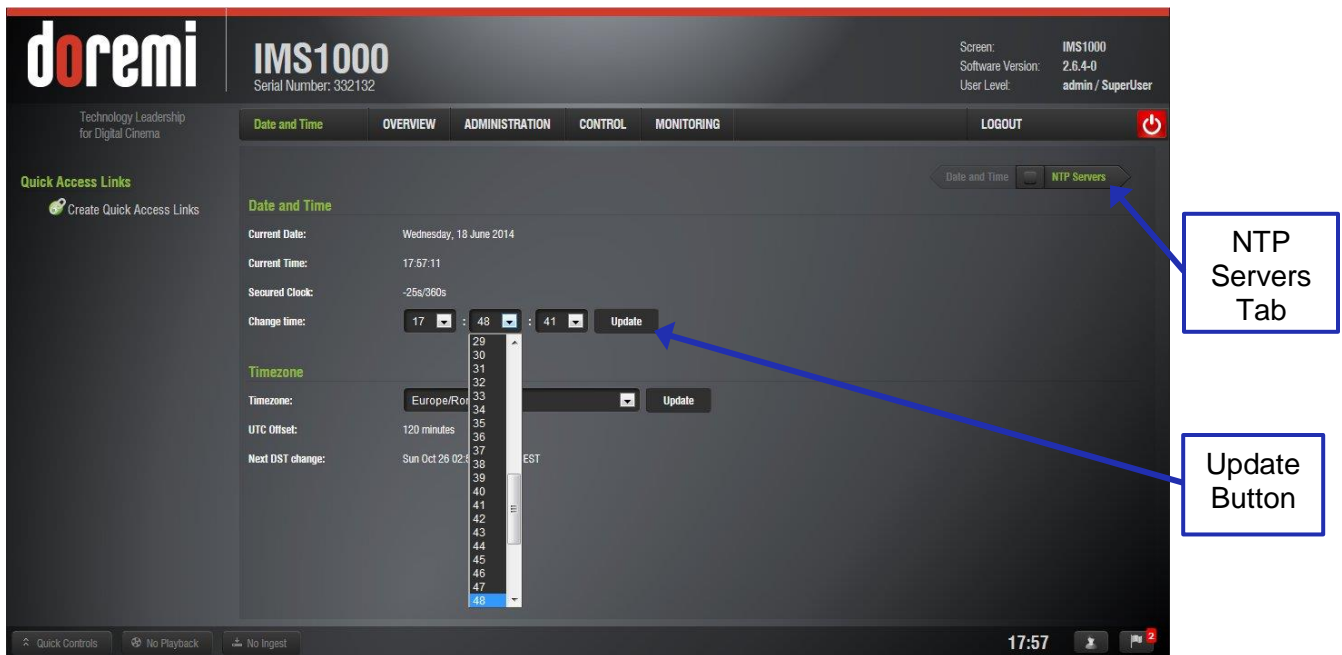
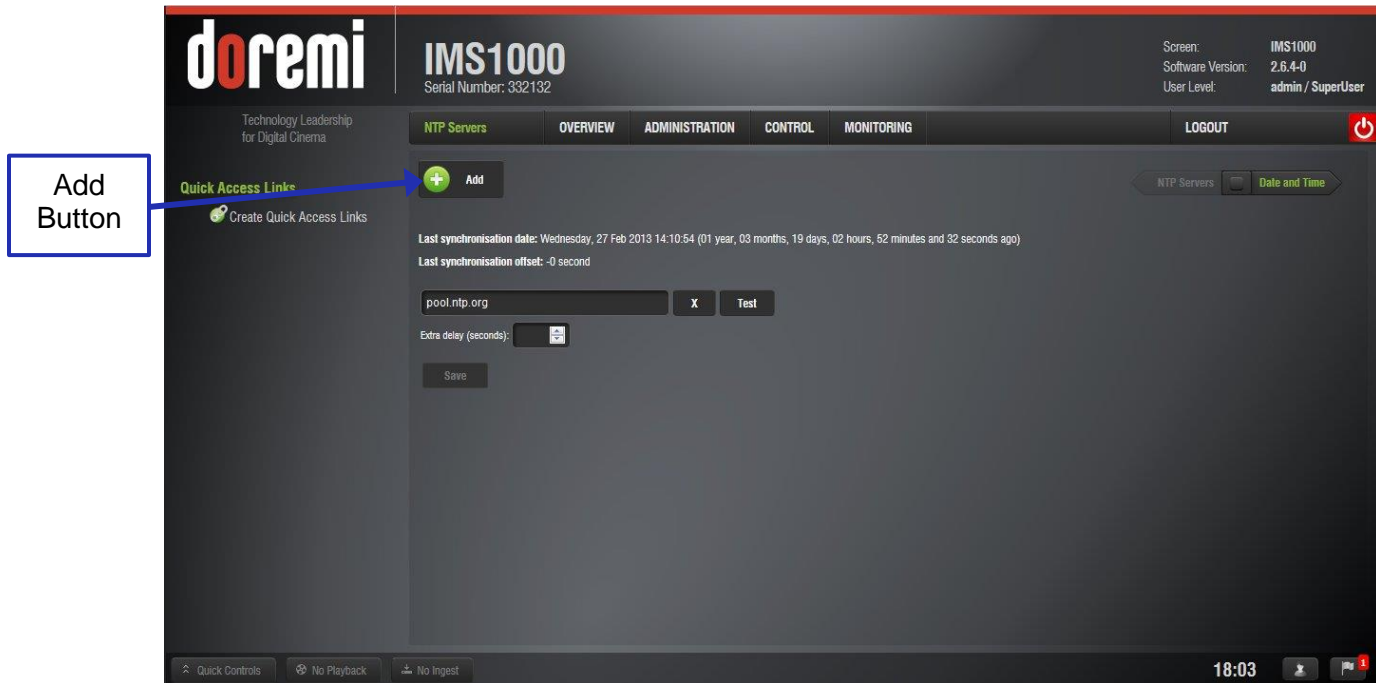

Figure 103: Change Time Drop-Down Window
Figure 104: NTP Servers
- For each box, a list of time settings will appear (Figure 103).
- Once the appropriate time change has been selected and appears within the box labeled, Change Time, click the Update button to save this setting (Figure 103).
NTP (Network Time Protocol) Servers are specific servers that sync the time and date on your unit to the UTC time. To access the NTP Servers tab, click on the green arrow button on the right side of the Date and Time tab, found by going to Administration → Control Panel → Time Settings (Figure 103). Click the Add button to add your NTP server (Figure 104).